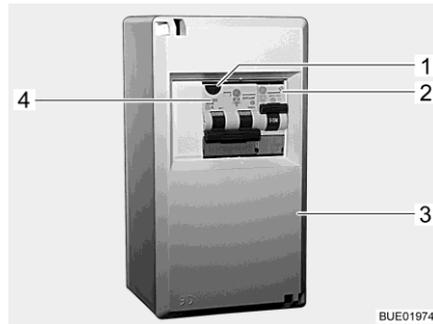
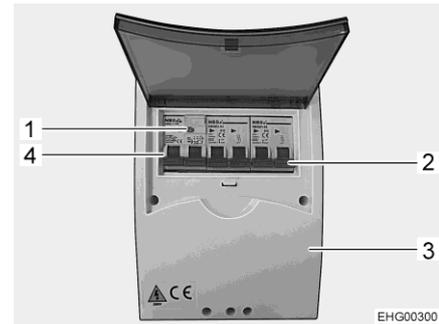

Fig. 219 230 V fuse box
Fig. 220 230 V fuse box (variant)
A combined fault current protection switch / safety cut-out (Fig. 219,4 or Fig. 220,4) in the fuse box (Fig. 219,3 or Fig. 220,3) protects the complete vehicle from fault current (0.03 A).
For vehicles with special equipment (e.g. air conditioning unit) an additional safety cut-out (10 A) (Fig. 219,2 or Fig. 220,2) secures the device.
- When the vehicle is connected to the 230 V power supply, press the test button (Fig. 219,1 or Fig. 220,1). The fault current protection switch must trip.